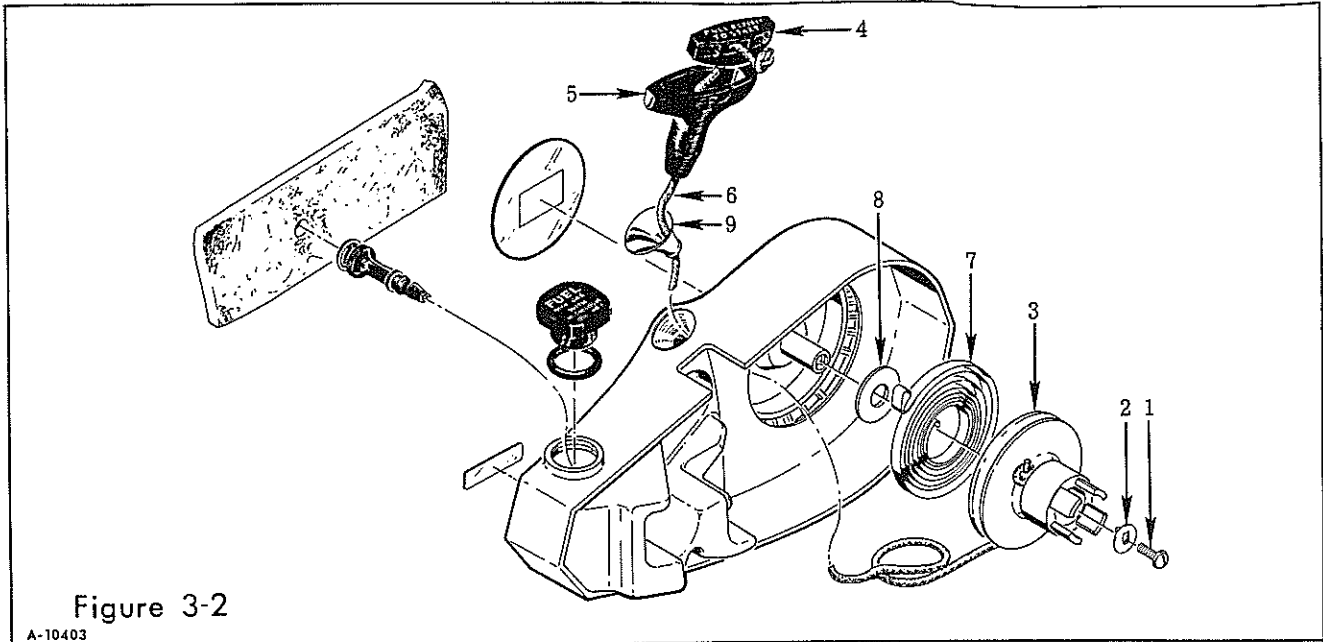
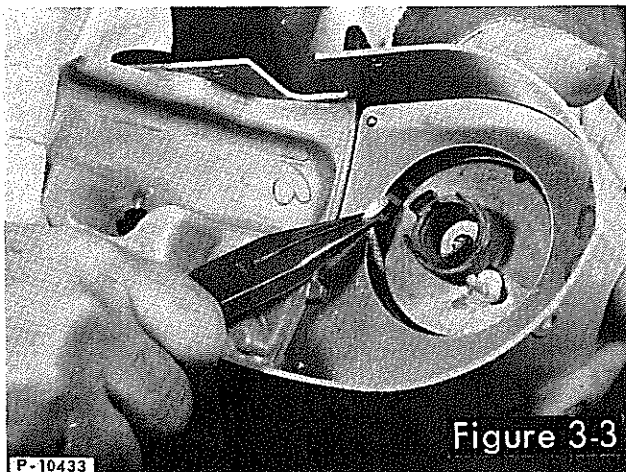

Figure 3-2
Figure 3-3
1. Grasp the rope between the drum (3, Figure 3-2) and rope guide (9) in the housing with a needle nose pliers (Figure 3-3). Pull enough rope off the drum so that the drum turns enough for the rope to fit into the cutout in the drum. Hold the rope so as to clear the ratchet and let the drum turn counterclockwise under spring pressure until spring pressure is gone.
2. Remove the screw (1) and tang washer (2).